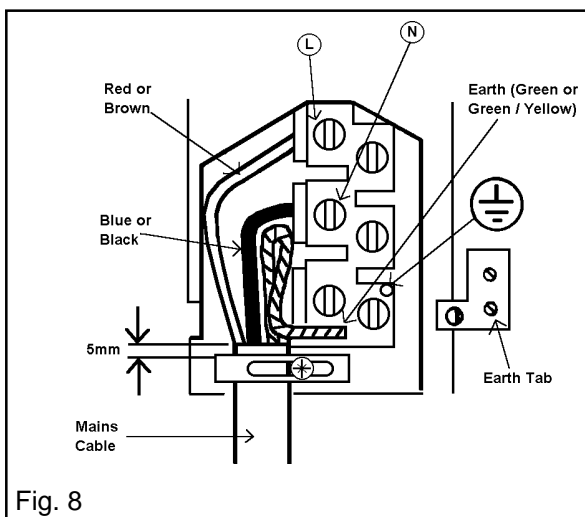

Fig. 8
- Do not remove the screws from the earth tab extending from the oven mains terminal block (Fig. 8).
- Make connection as shown in Fig. 8 by proceeding as follows:-
- Clamp the mains cable securely ensuring 5mm of the outer insulation is inside the terminal block and that the wires are not taught but not so slack as to cause any fouling. See Fig. 8.